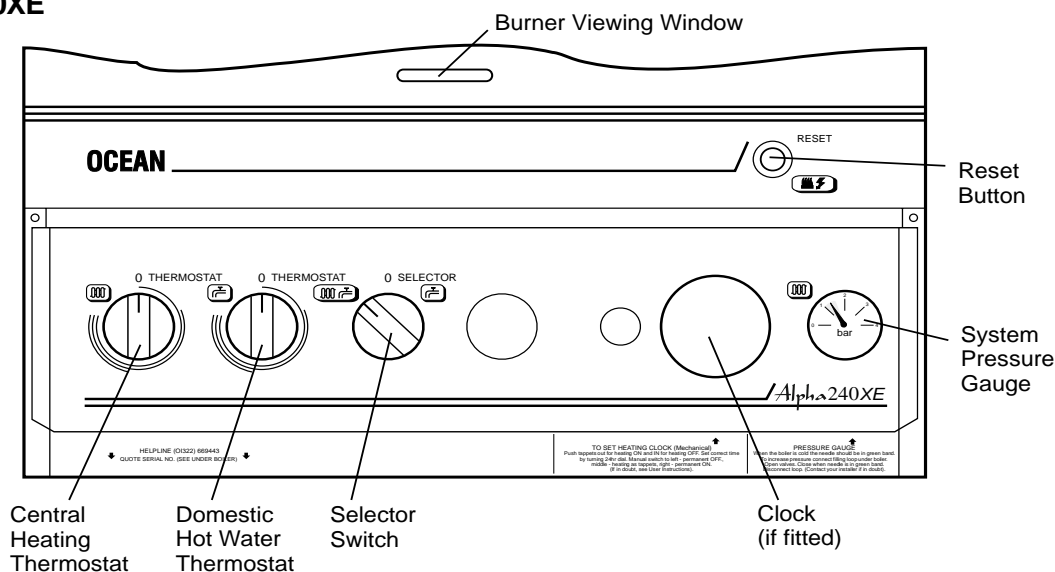

Fig. 16
5.2 BOILER CONTROLS - Fig. 16
5.4 INITIAL LIGHTING - Refer to Fig. 16
When the reset button () is illuminated it indicates that the burner has failed to light - Press the reset button (see Fig. 16) and the ignition sequence will restart.